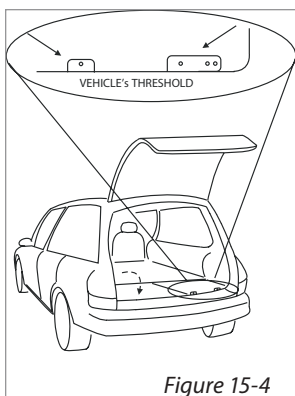

Figure 15-4
4. **Fold third-row seating back into well.** Verify vertical joiner mount holes are above threshold. *[Figure 15-4]*